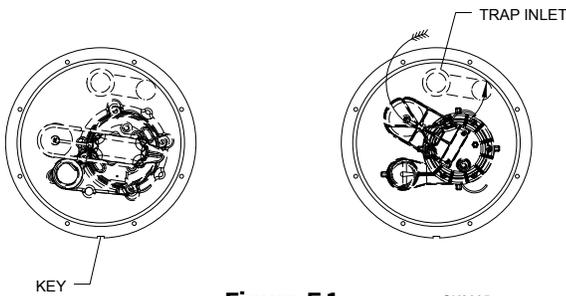

Figure 5.1
5.1) Place the pump in the basin as shown in Figure 5.1.
NOTE: If installing the internal trap, rotate the tail pipe to the orientation shown in Figure 5.1.